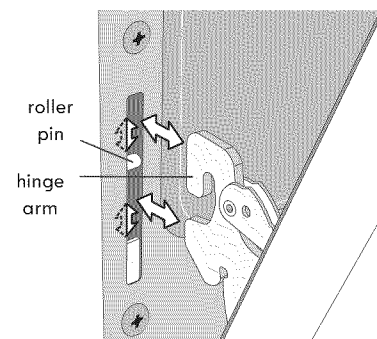

Figure 47: Hinge pin locations
5. With the oven door in the broil stop position, lift the oven door hinge arms over the roller pins located on each side of the oven frame (Figure 47).
2. Holding the oven door at the same angle as the removal position, seat the hook of the hinge arm over the roller pins located on each side of the oven door frame (Figure 47). The hook of the hinge arms must be fully seated onto the roller pins.